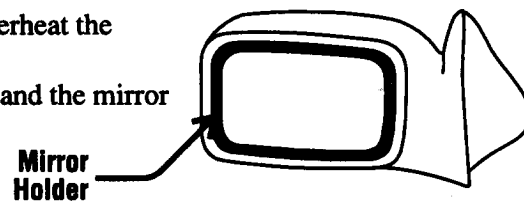

figure 1
- 1) Heat the mirror holder. See figure 1. Take care not to overheat the mirror assembly or the painted surface.